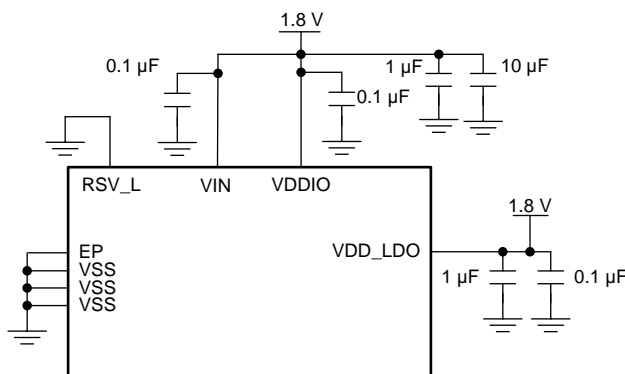

Figure 25. Single 1.8 V Supply Mode - Not Compatible with LMH1219
- Single 1.8 V Supply Mode:** This mode provides the lowest power consumption. In this mode, 1.8 V is connected to VIN, VDD\_LDO and VDDIO. RSV\_L is tied to VSS. In this mode, SPI is supported, but SMBus serial interface is not. *In Single 1.8 V Supply Mode, the LMH0324 is not drop-in compatible with the LMH1219.* See Figure 25 for more details.